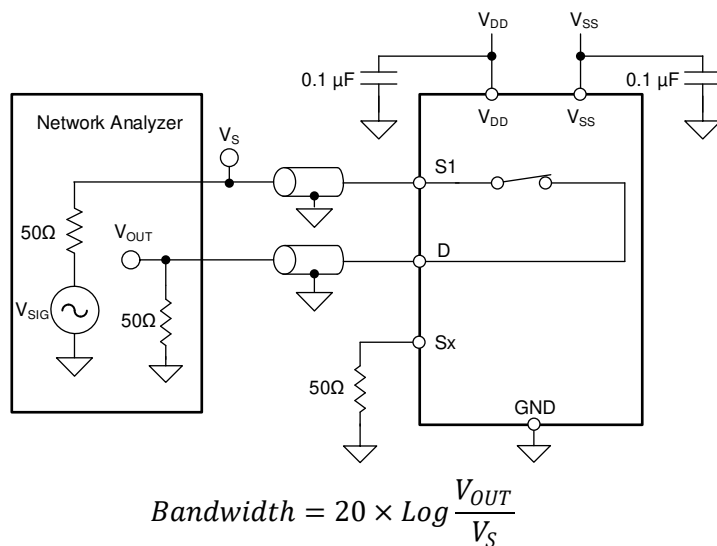

图 7-12. Bandwidth Measurement Setup
Bandwidth is defined as the range of frequencies that are attenuated by less than 3 dB when the input is applied to the source pin (Sx) of an on-channel, and the output is measured at the drain pin (D) of the device. 图 7-12 shows the setup used to measure bandwidth.